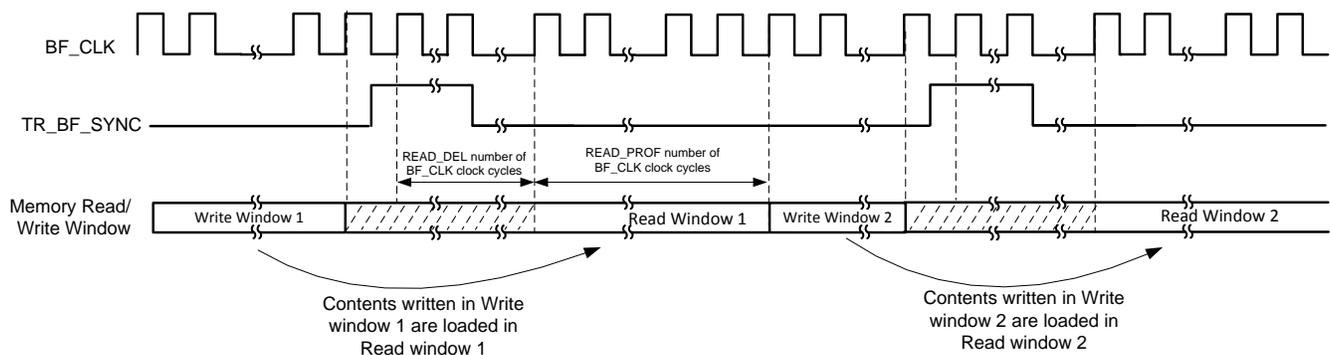

Figure 57. Read and Write Timing Window of Delay and Pattern Profile
The read and the write window timing of profile is as shown in Figure 57. 'Write' refers to the SPI write to either modifying the delay or pattern profiles or changing the selection of the profile to be used for the next transmission window. 'Read' refers to the loading of the selected profile from the memory into the TxBF and pattern generator blocks. Parameters READ_DEL and READ_PROF are listed in Table 16. It is important to consider the following points related to write and read operation of profile.
- Once profile content, BF_PROF_SEL, and PAT_SEL_X_Y is programmed, the effect of it is reflected only in the next read window. For example, in Figure 57 if BF_PROF_SEL is changed in write window 1 then the new delay profile is loaded only in read window 1 and used for the subsequent transmit cycle.